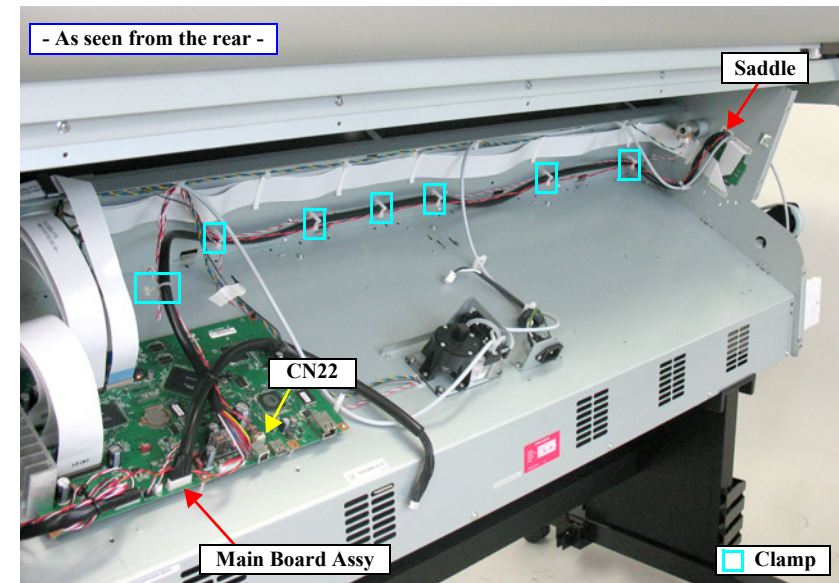

Figure 4-37. Releasing the harnesses
8. Release the cables from the seven clamps and the saddle. *See Figure 4-37.*